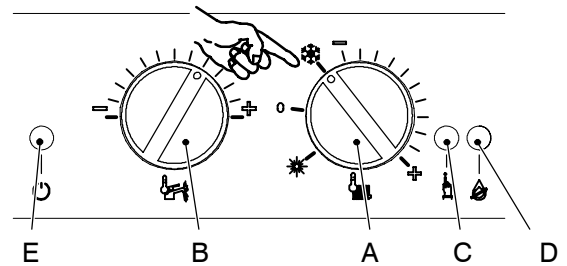

Fig. 14
- 10 Turn the boiler OFF and ON positioning the function selector knob A as indicated in Fig. 14